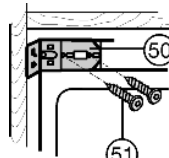
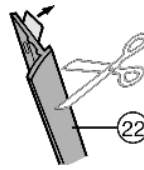

Fig. 16
Fig. 17
- ▶ Loosely screw Fig. 16 (51) the mounting bracket Fig. 16 (50) to the appliance through the oblong holes.
- ▶ Remove the protective film from the trim Fig. 17 (22). Apply the strip to the bottom edge of the mounting bracket Fig. 16 (50) on the side wall of the appliance on the handle side and flush with the front and glue on.
- ▶ If necessary, shorten the trim Fig. 17 (22) to the height of the recess.\*